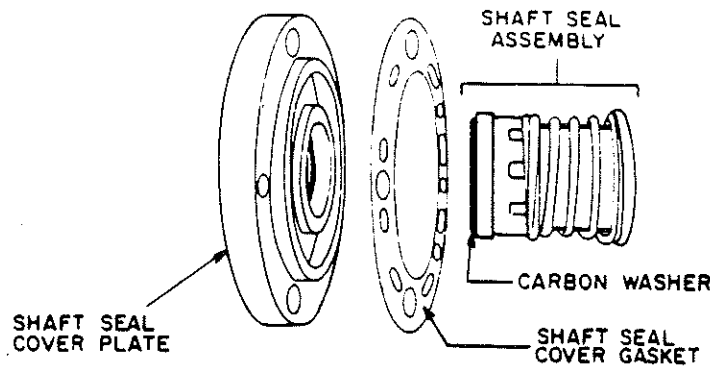

Figure 3-16. Shaft Seal Exploded View
a. Install new shaft seal assembly, cover gasket, and cover plate only. Never reinstall a used seal assembly and gasket. A new carbon washer should never be installed in a used cover plate. When installing the seal assembly, use care not to damage carbon washer or seal seat. If the new carbon washer is damaged during installation, replace it with a new one. (See figure 3-16.)